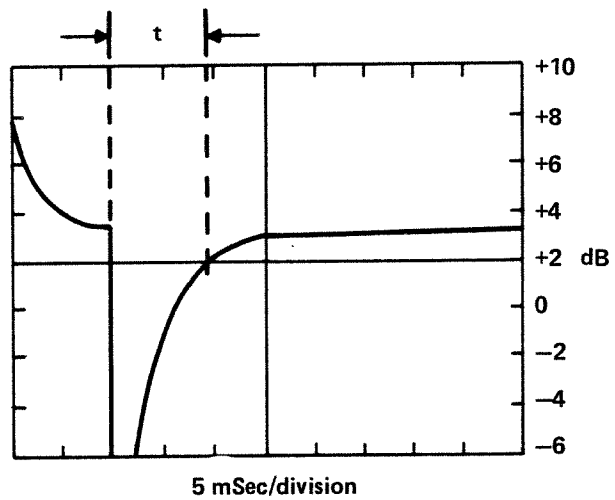

Figure 6-8. Decay Time Constant
23. Repeat step 19, utilizing Figure 6-8. Record on test data sheet.
25. Repeat step 19, utilizing Figure 6-8. Record results.
29. Observe the trace and record the time for the signal to return to within 1 dB of its final value. See Figure 6-8. Record on the test data sheet.